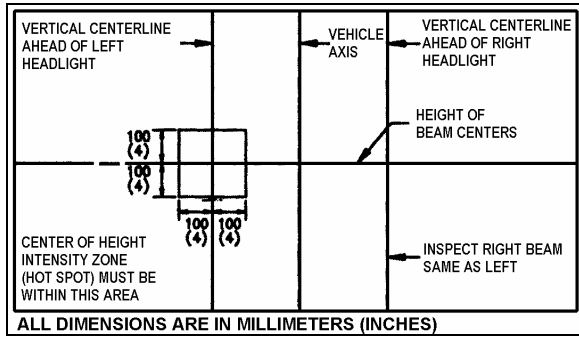

FIGURE 60: AIM INSPECTION LIMITS FOR UPPER-BEAM HEADLIGHTS 06505
- The inspection limits for high-beam headlights shall be with the center of the high-intensity zone from 10 cm (4 in) up to 10 cm (4 in) down; and, from 10 cm (4 in) left to 10 cm (4 in) right on a screen at 7.6 m (25 ft) (Fig. 60).